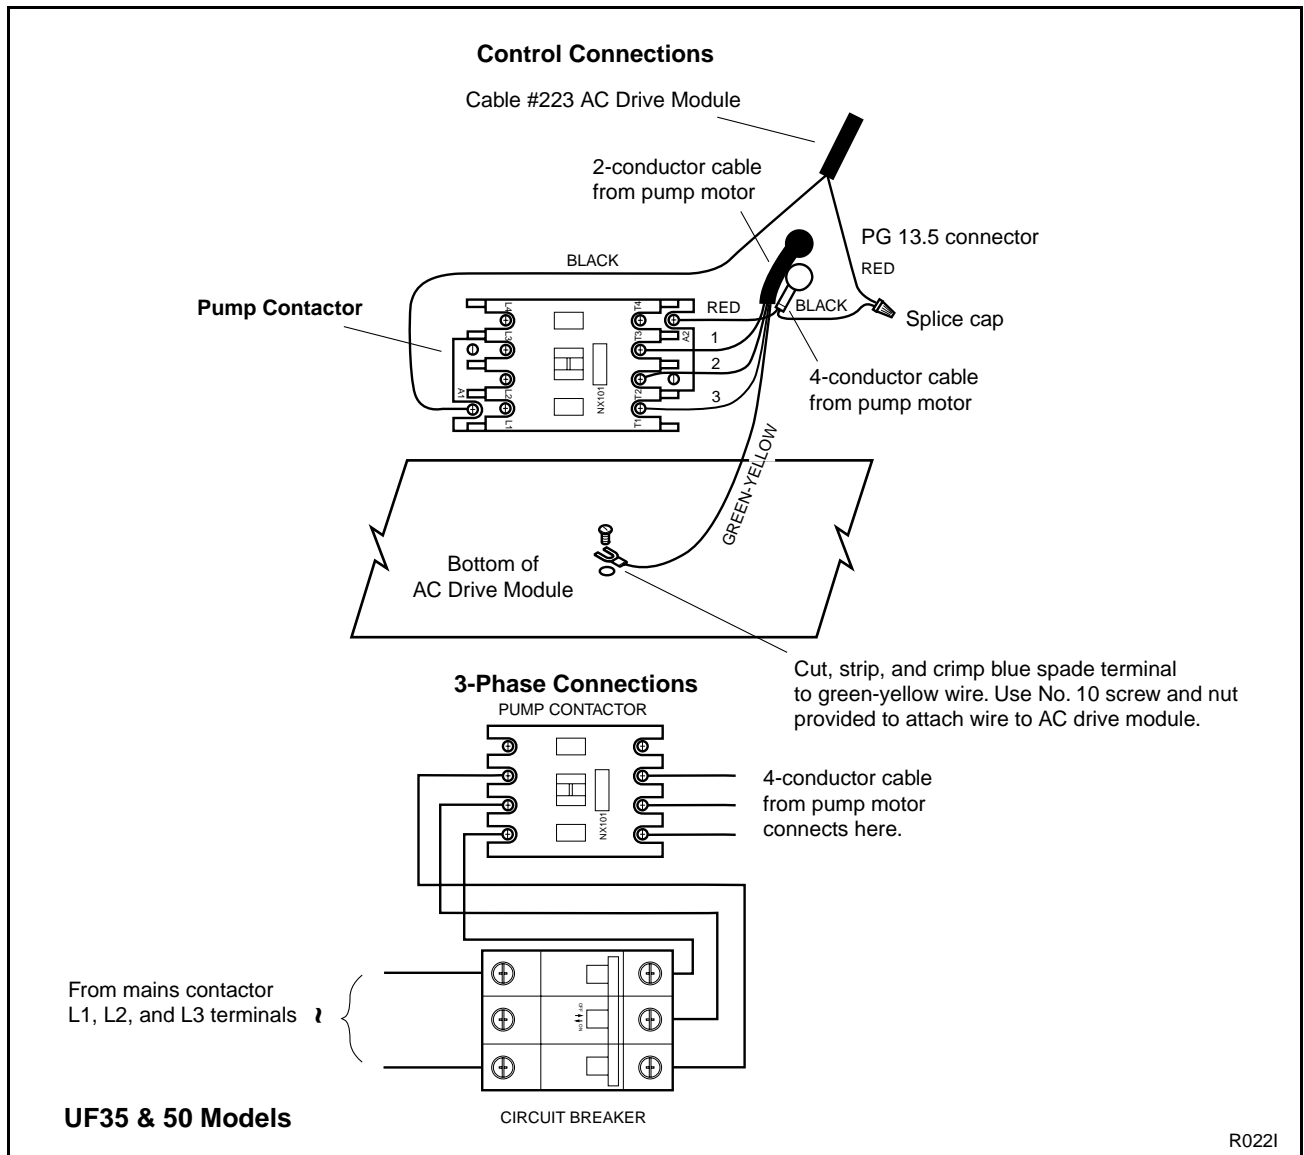
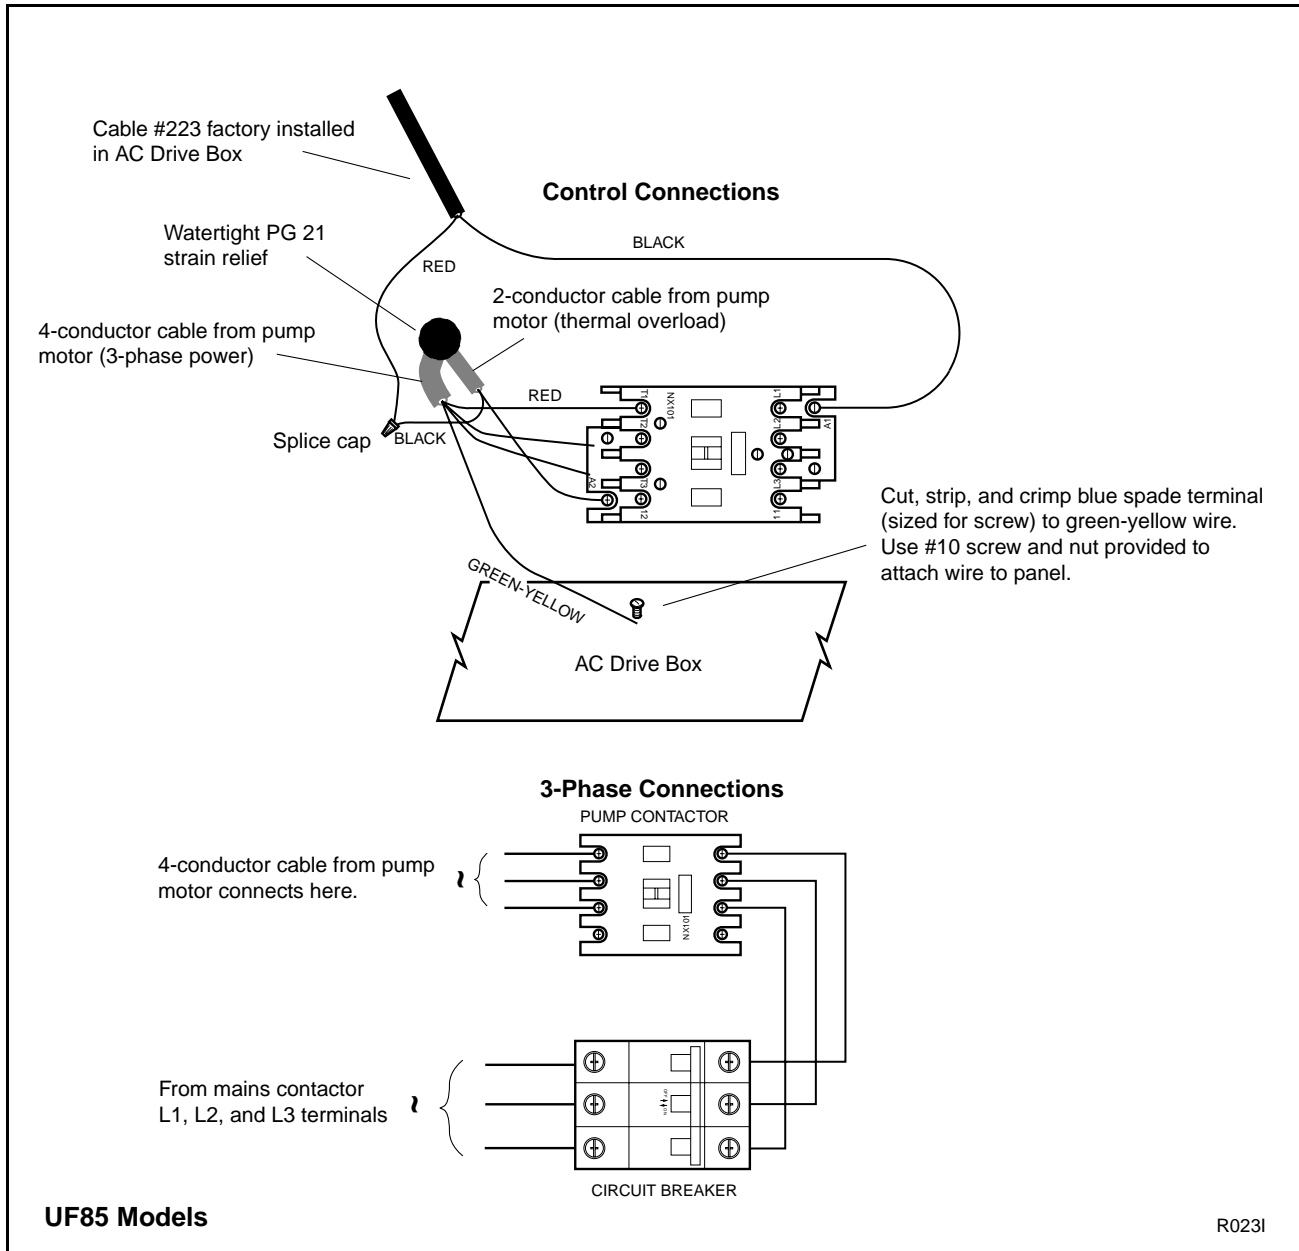

Figure 23
Figure 24
b. *On the 35- and 50-pound models,* install two PG 13.5 watertight strain reliefs, included in the kit, in place of each of the top two plugs. See Figure 23. *On the 85-pound models,* install the PG 21 strain relief in place of the second plug from the top. See Figure 24.
- d. *On the 35- and 50-pound models,* route the 2-conductor and 4-conductor cable through the two PG 13.5 strain reliefs installed in step b. See Figure 23. *On the 85-pound model,* route both the 2-conductor cable and the 4-conductor cable through the PG 21 strain relief as shown in Figure 24.
- e. Connect red wire in the 2-conductor cable from the canister/filter/pump assembly to terminal A2 of the pump contactor. See Figure 23.